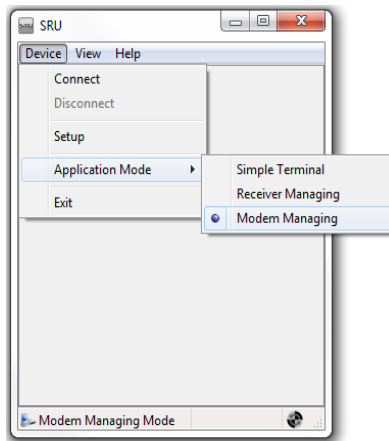

Figure 3-1. Modem Managing
2. Open SRU (Figure 3-1). Click **Device ▶ Application Mode ▶ Modem Managing**. Then click **Device ▶ Connect**.